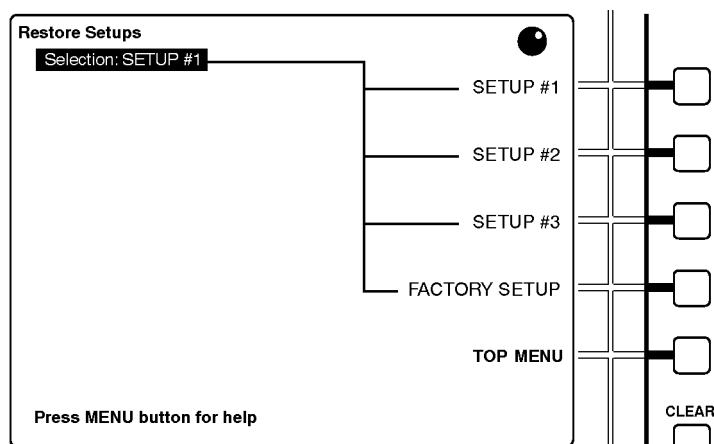

Figure 2–32: The restore setups submenu
2. Use the multi-function knob to scroll the menu highlight to Restore Setups. Press any soft button to enter the submenu. It will resemble the display illustrated in Figure 2–32.